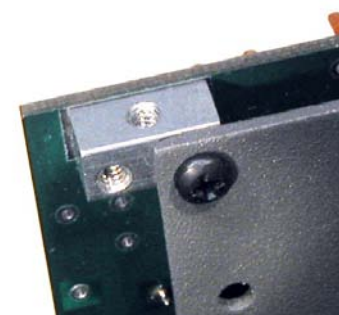

Figure 35. Bottom Cover Attached to 2-D Fastener.
Clean the paint off of the inside surface of the bottom cover around the screw holes in the four corners where the 2-D fasteners will attach it to the RF PCB (See Figure 35).
- Pick up the entire assembly and secure the four 2-D fasteners to the bottom cover. Each corner is attached with one 3/16" (4.8 mm) black screw (see Figure 35). The other two screw holes in each 2-D fastener will secure the front, rear and side covers in later steps.